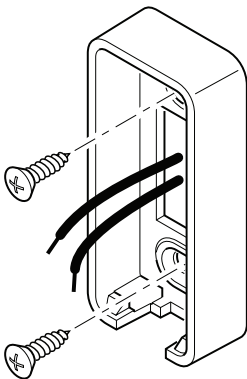

Figure 2 - Attach Back to Wall
2. Insert wires through hole in center of push button back. Attach back to wall with screws provided (see Figure 2).